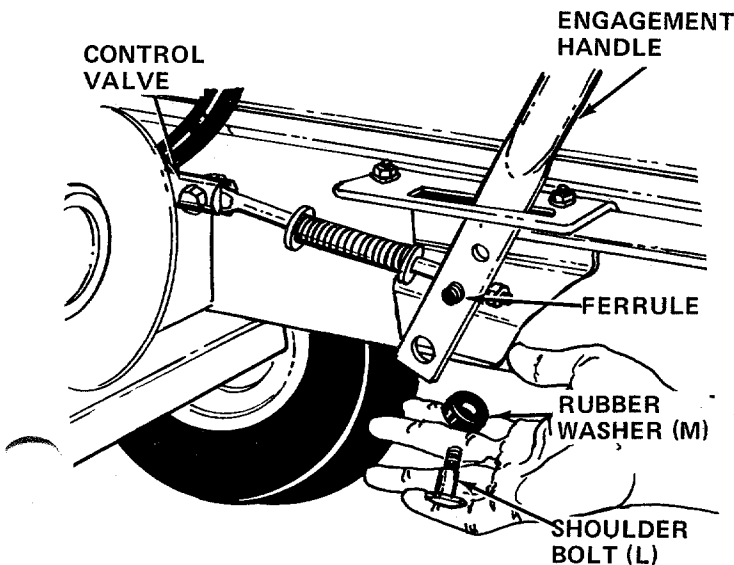

FIGURE 8
1. Place the flattened end of the engagement handle down through the slotted bracket beside the beam. Insert the end of the ferrule on the engagement rod into the second hole from the end of the engagement handle. See figure 8.
2. Place shoulder bolt (L) through bottom hole in engagement handle. Place rubber washer (M) on shoulder bolt. Secure to bracket with hex lock nut (N). Tighten lock nut until nut is flush with the end of the shoulder bolt.